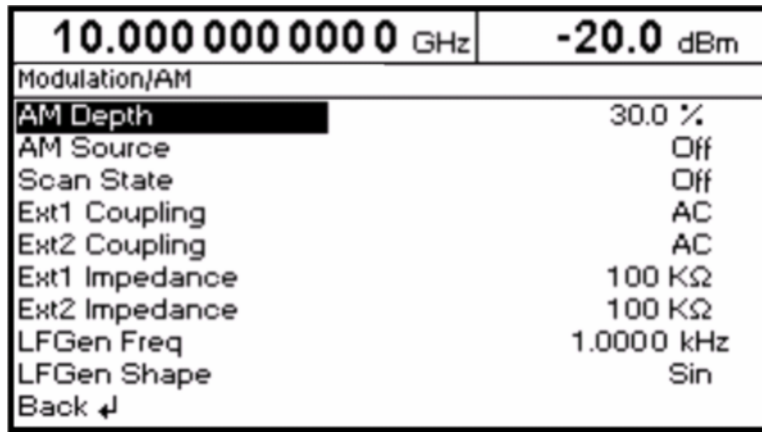

Fig. 3-2 Modulation - AM Menu
**Select parameter** ➤ Set the menu cursor to the name of the parameter desired using the rotary knob, e.g. to AM Depth in the AM menu, cf. Fig. 3-2.
The menu cursor changes from the parameter selected in the left-hand column of the setting menu to the setting value on the right, e.g. from AM Depth to 30%, cf. Fig. 3-2.